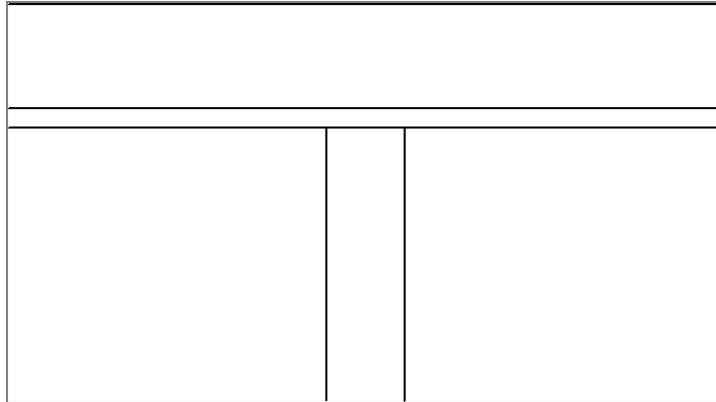

FIGURE 12.55: The detail up to this point
12. For the second point of the line, pick a point about 1'-9" (525mm), straight down, as shown in Figure 12.55. (This draws a line offset 3" [75mm] to the right from the center of the line above.)
14. Move your cursor down the view, but this time tap the spacebar to flip the line to the other direction (see Figure 12.55).
15. Draw another line of the same length (again, see Figure 12.55).
17. Compare your lines with the lines in Figure 12.55.